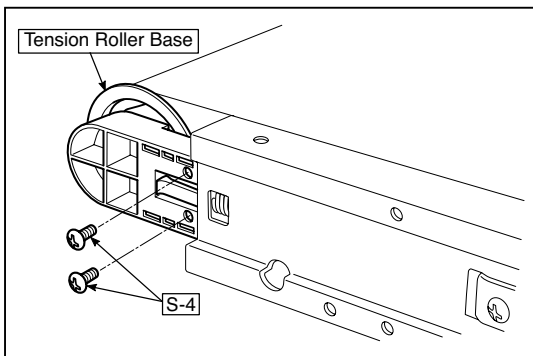

Fig.29
- 3.Remove the stopper "S-4" screws in the (two upper and lower) Tension Roller Bases shown in the figure 29.